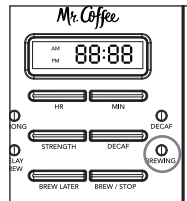

Figure 6
- After completing the steps in the “Adding Water and Ground Coffee” section and with the decanter and the filter basket securely in place, turn the coffeemaker on by pressing the SELECT button once. The BREW NOW green light will turn on to signal that the coffeemaker is on and brewing (Figure 6).